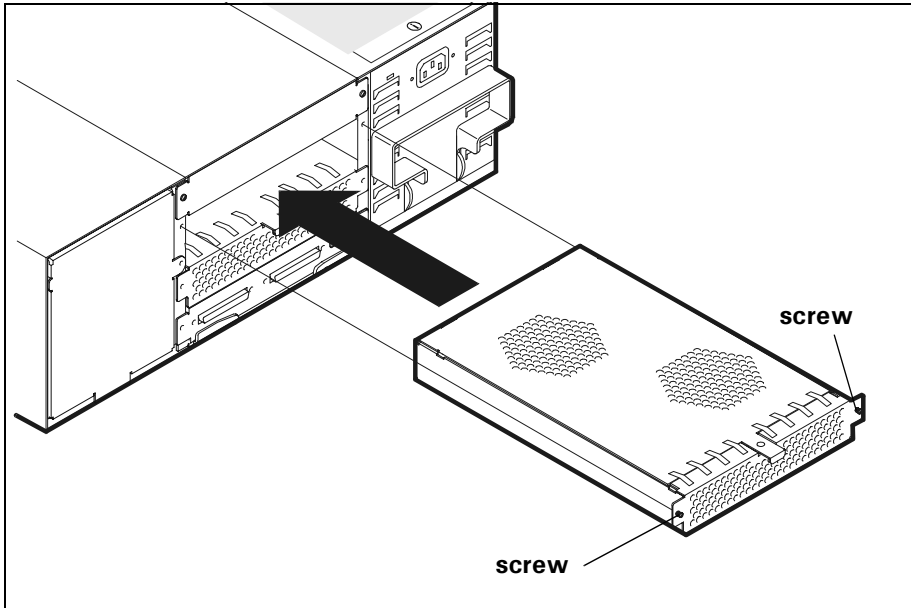

Figure 63 Installing a Second Fan
2. Slide the fan into the empty slot (Figure 63).